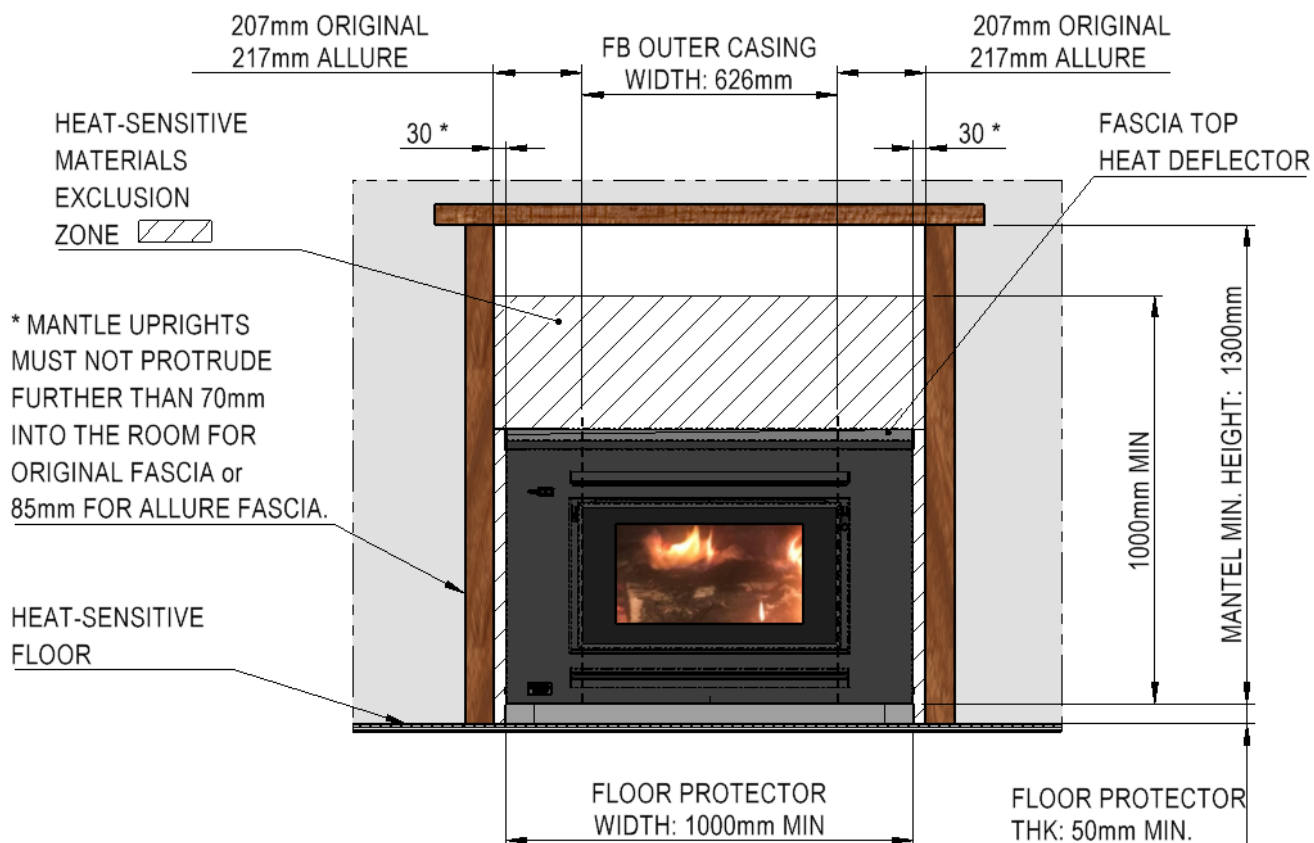

Fig 5
- E1. Non-combustible front cladding **must be used**, to a minimum of 1000mm from the top of the appliance hearth, and a minimum of 207mm for the Original Fascia set, 217mm for the Allure Fascia, either side of the outer casing of the firebox. (Fig. 5)